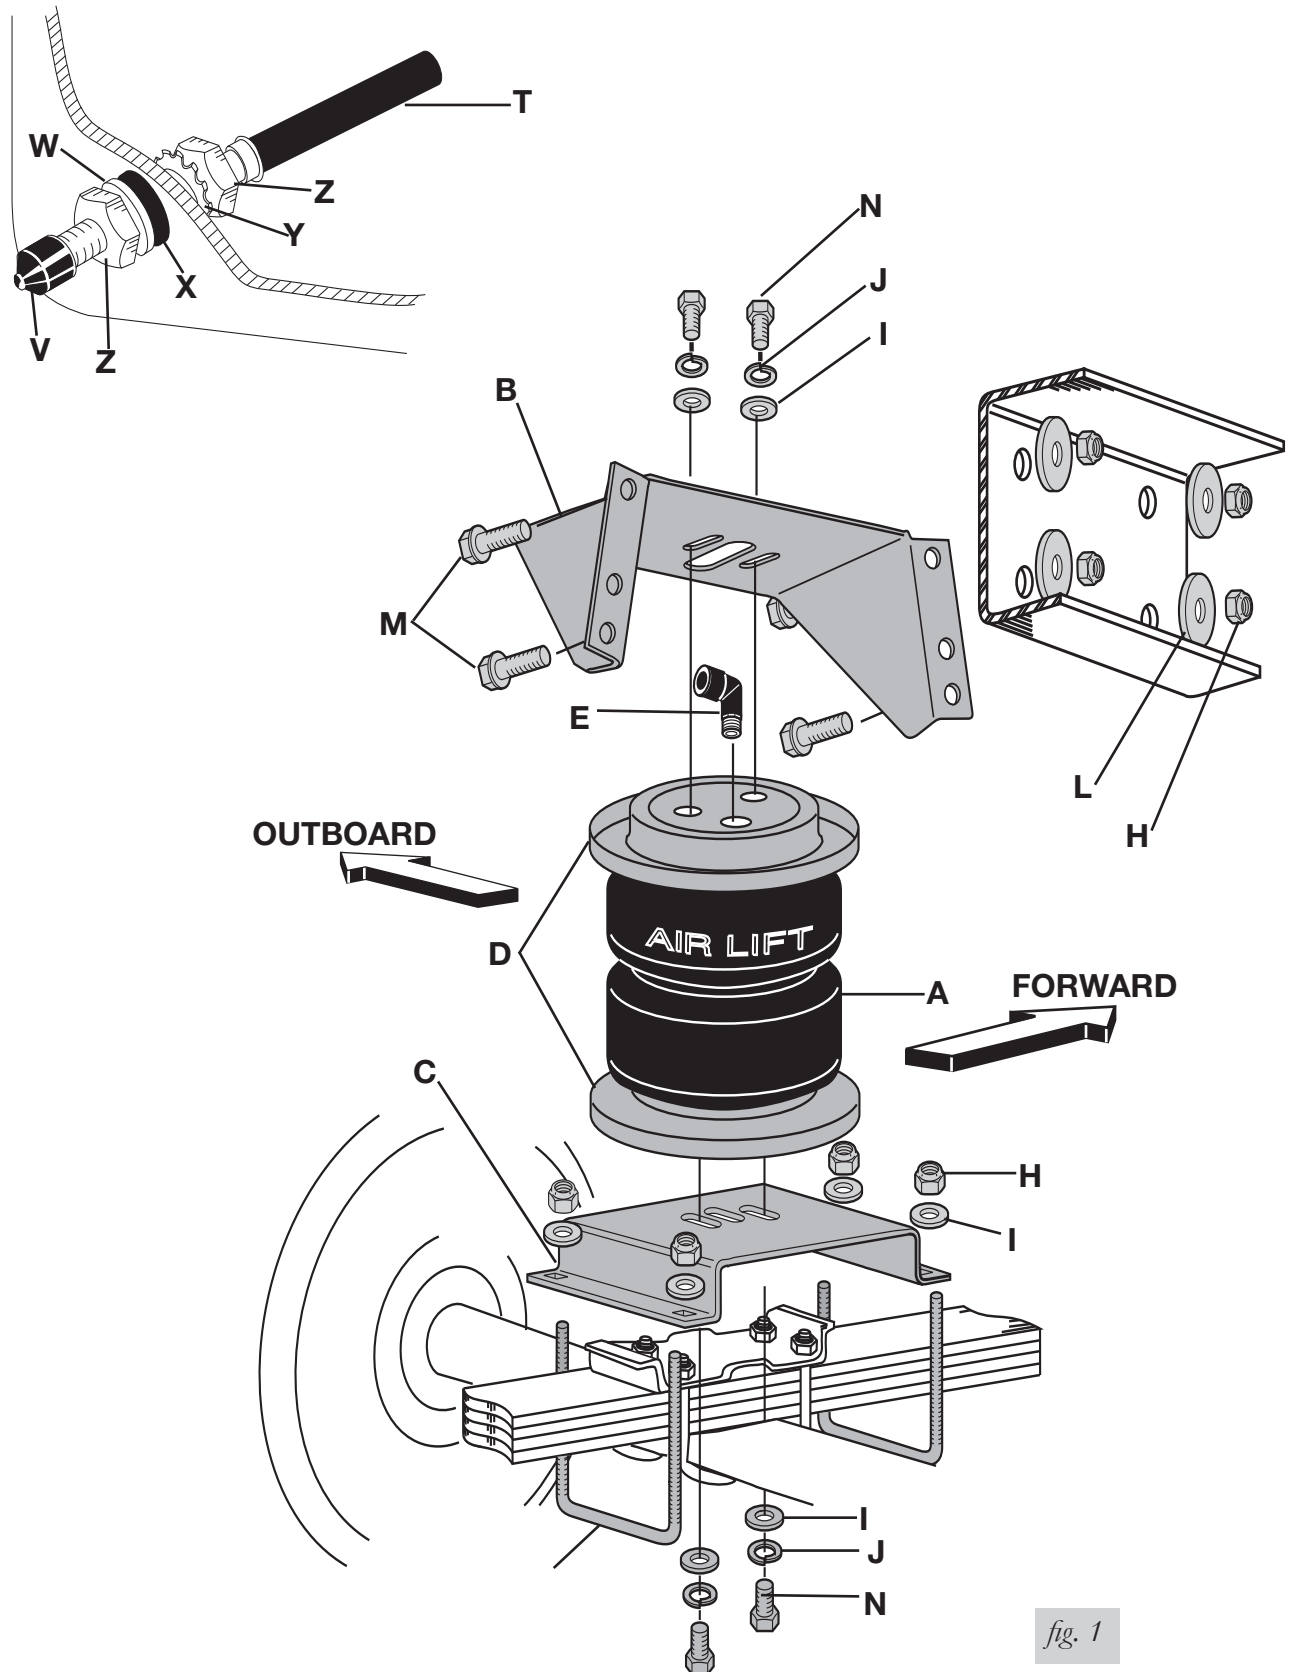

fig. 1
1. If the spacer is not used, attach the lower bracket securely using the provided U-bolts, flat washers, and lock nuts. Torque nuts to 16 lb.-ft. (22Nm) See Figures 1 and 9.